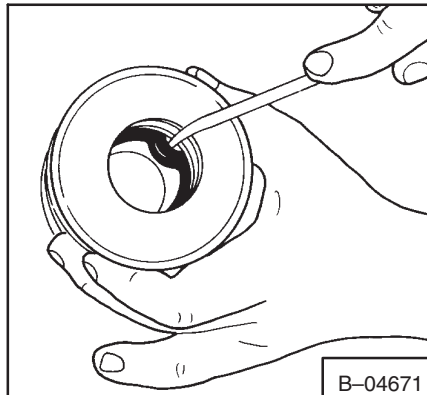

**Fig. 2-53** Removing O-Ring
10. Remove the O-ring and back-up washer from the end cap (Fig. 2-53).